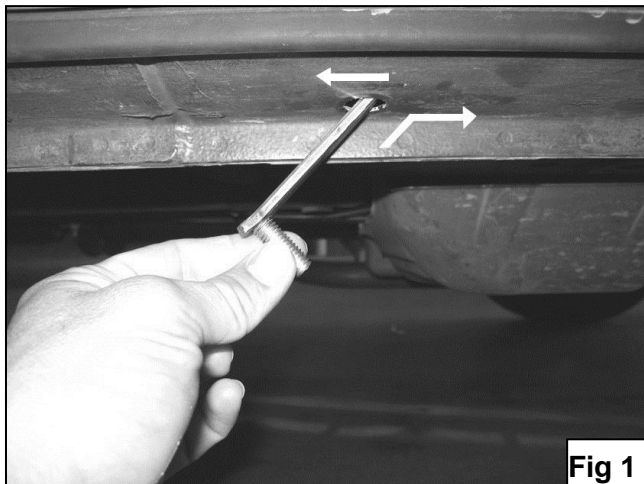

Fig 1
1. Locate the two factory holes in the driver side frame rail towards the lower sub frame and insert (1) 10mm x 25mm Bolt Plate through front factory hole. **NOTE:** Insert Bolt Plate from front to back, and once it's inside the frame push all the way towards the front of the vehicle to fully engage (**Figure 1 & 2**).
2. On the outer side of pinch weld, there are several rubber plugs in the floor panel. Remove the rubber plug that lines up with the previously inserted Bolt Plate, then insert (1) 10mm x 25mm Bolt Plate. **NOTE:** Insert Bolt Plate from front to back, and once it's inside the frame push all the way towards the front of the vehicle to fully engage (**Figure 1 & 2**).